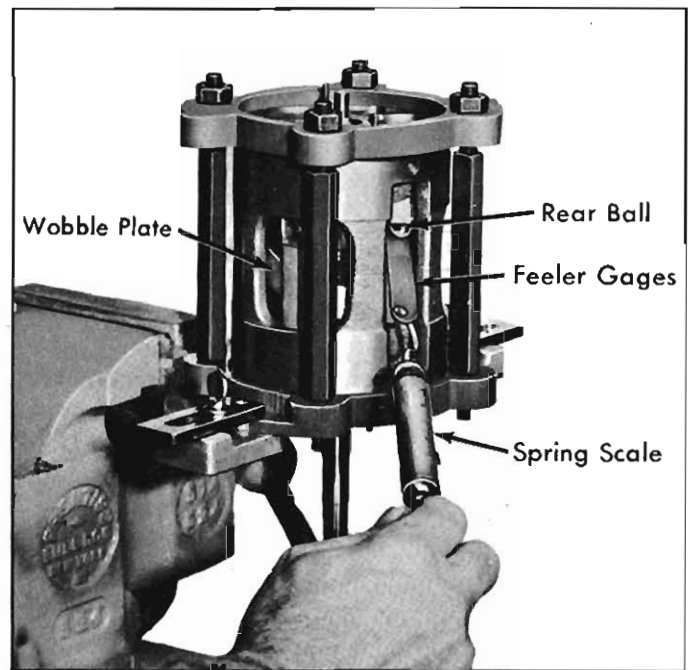

Fig. 11-52—Checking Clearance Between Rear Ball and Wobble Plate
12. Use a leaf type feeler gauge and a suitable spring scale to check clearance between the REAR ball and the wobble plate (fig. 11-52) of the No. 1 piston. Use a suitable combination of feeler gauge